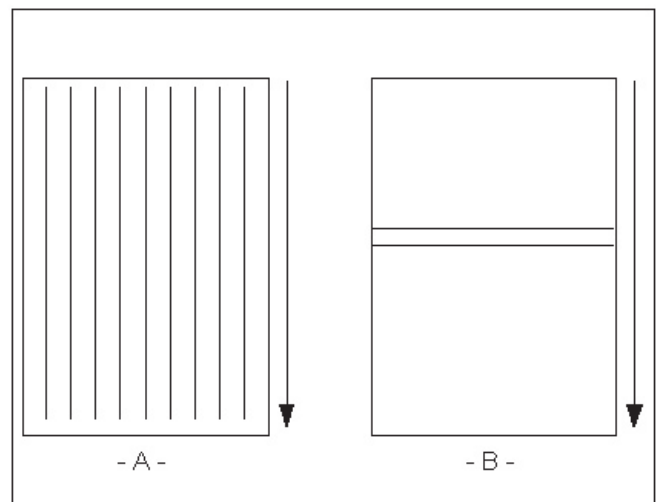

Fig 44
3. **Straight waves in output (Figure 44 A).**
4. **Indent waves in output after pull rollers (Figure 44 B).**